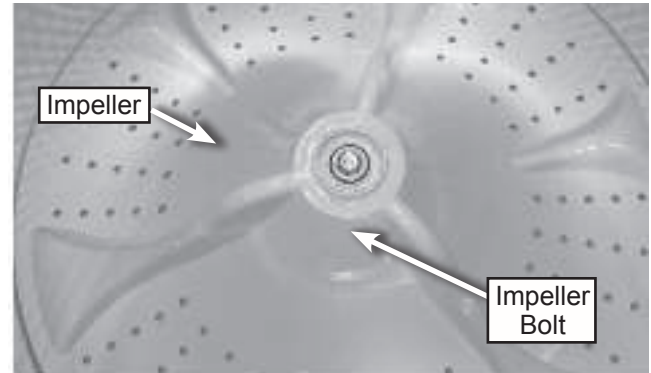

Figure 2
2. Remove impeller. Remove cap covering impeller bolt, with a flat blade screwdriver. Remove impeller bolt, pull up on impeller to remove, See Figure 2.